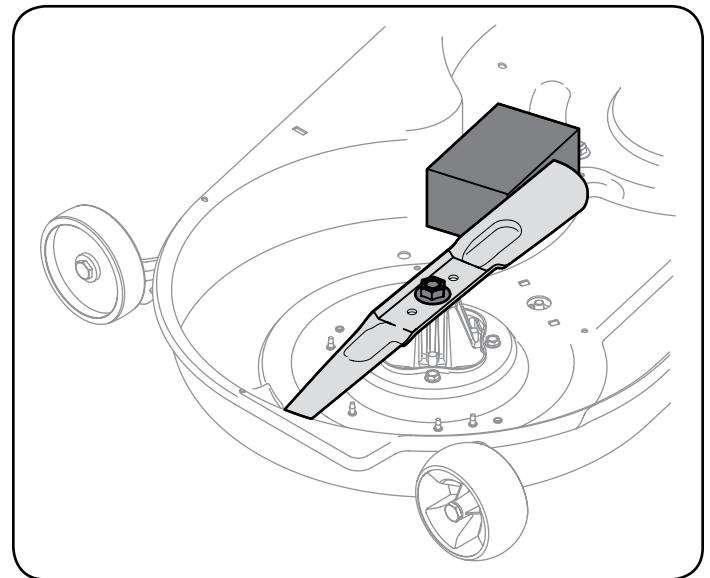

Figure 32
2. Place a block of wood between the deck housing baffle and the cutting blade to act as a stabilizer. See Figure 32.
3. Remove the hex flange nut that secures the blade to the spindle assembly. See Figure 32.